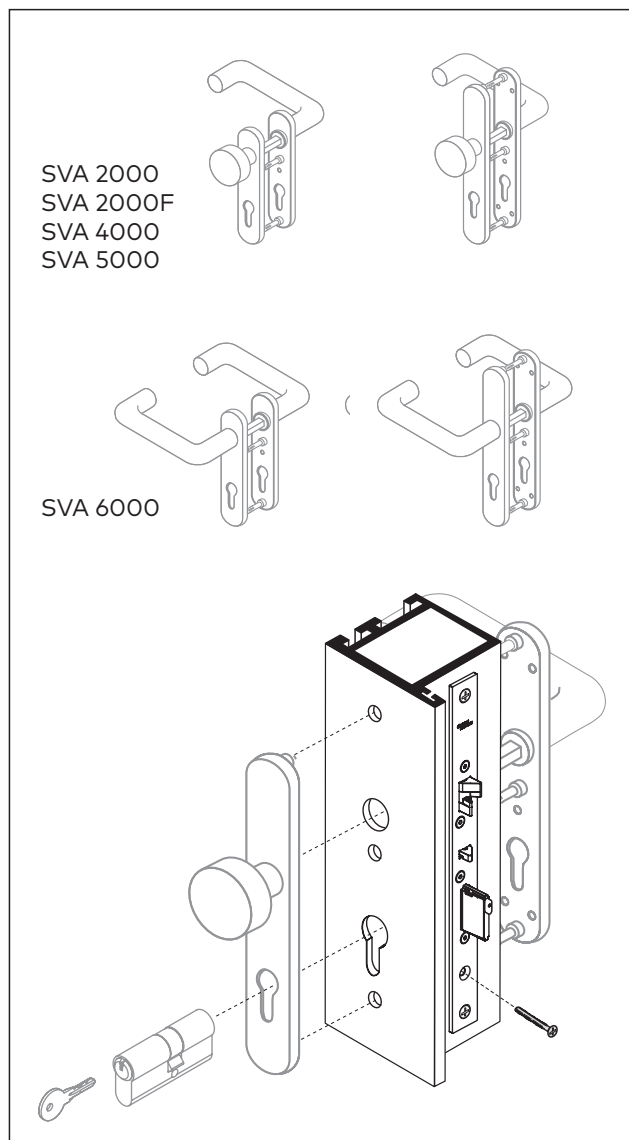

Fig. 19 Mount door handle and locking cylinder
4. Mount the door handle and locking cylinder (Abb. 19).